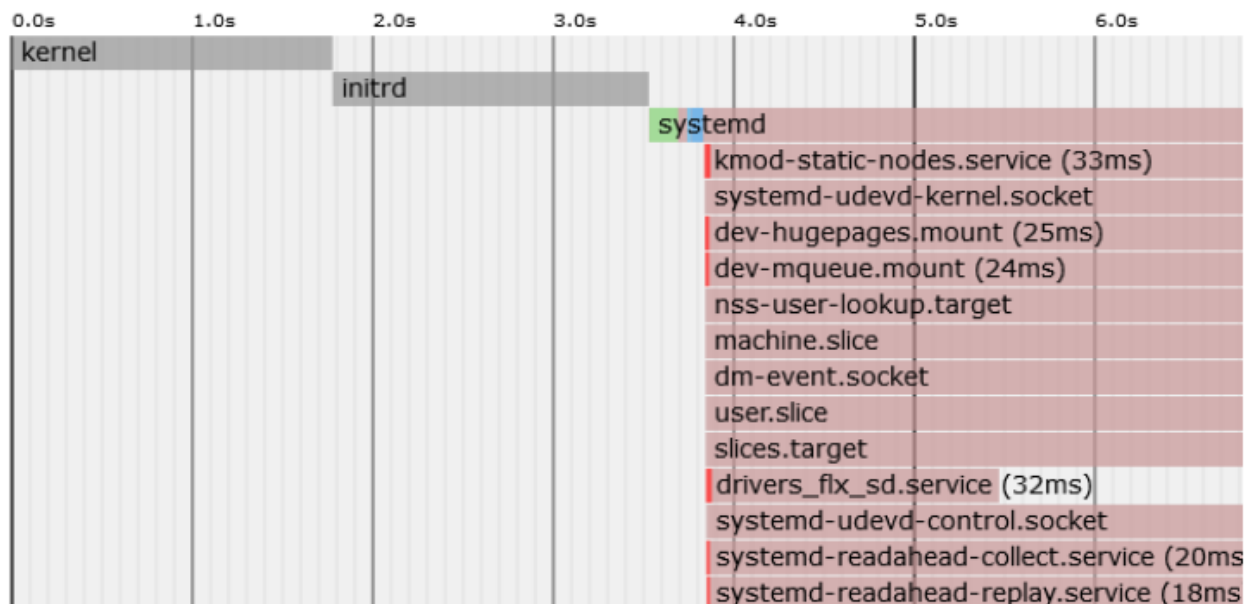

Figure 29. Example output of `systemd-analyse`.
- Run `systemd-analyze plot drivers_flx_sd.service > p.svg; eog p.svg`. You will see something like what is shown in Figure 29.